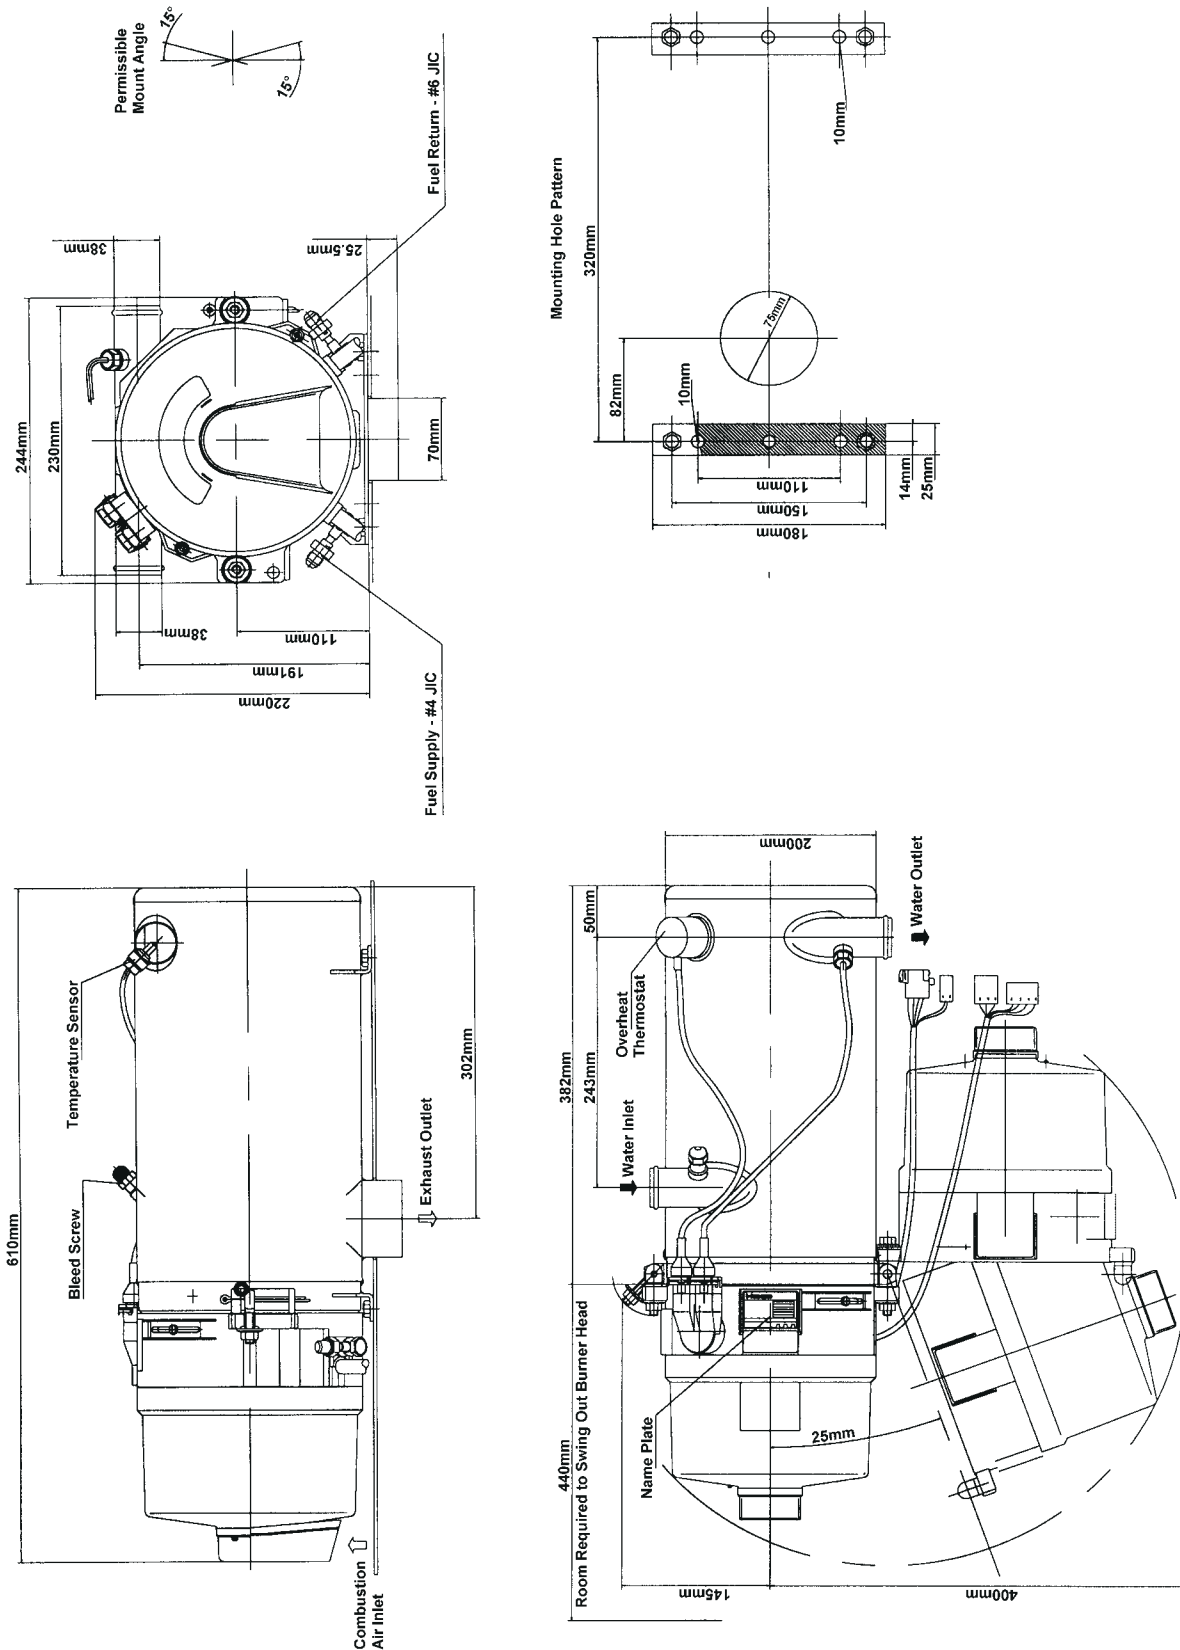

Fig. 301: Thermo 230/300 Heater Dimensions
The heater is to be installed in a clean and dry environment, usually a separate compartment, accessible for service, typically towards the rear of the vehicle. The heater may also be located in the engine compartment. The installation enclosure must provide adequate ventilation for combustion air requirements [4 in² (20 cm²)]. When installing the heater, make certain that the clearances required for accessing the unit for servicing are observed (e.g. removal of the combustion chamber). See figure 301, page 302.
1. Drill all required holes to dimensions shown in figure 301, page 302.